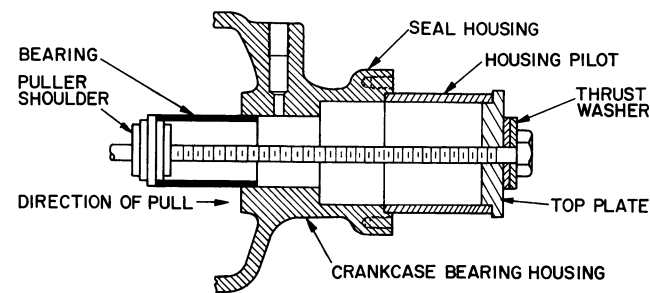

Fig. 47 — Seal-End Main Bearing (5F40, 60)
DISASSEMBLY AND INSPECTION — With crankshaft removed, use a bearing puller with a shouldering device to remove and install seal-end main bearings (Fig. 47 and 48). Bearing pullers can be ordered through Carrier or Totaline Parts.
3. Press bearing into place using a puller shoulder (Table 12 and Fig. 47 and 48) and jack screw or bearing press.